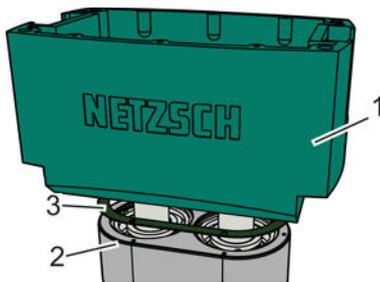

Fig. 135: Positioning the gearbox housing, example
8. ➔ Fit the lightly lubricated flat seal (Fig. 135/3) in the correct position so they are aligned with the boreholes in the bearing housing (Fig. 135/2).
Position the gearbox housing (Fig. 135/1) in the correct position on the upper bearing housing (Fig. 135/2) with the assistance of a second person.